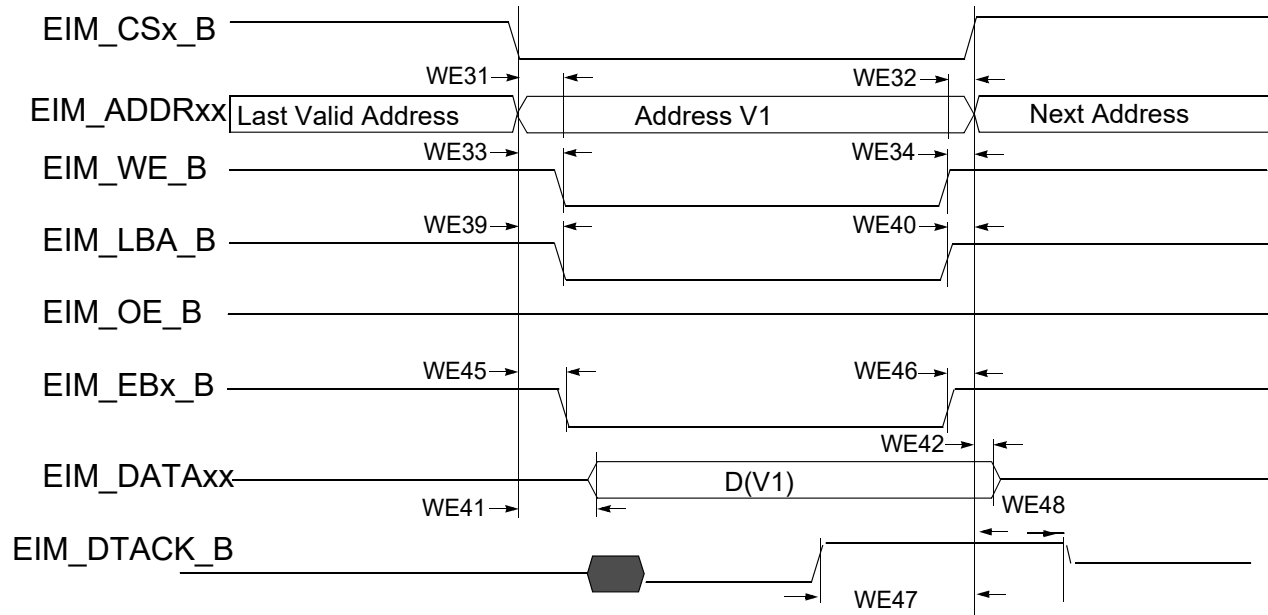

Figure 21. DTACK Mode Write Access (DAP=0)
Figure 16 through Figure 21, and Table 45 help you determine timing parameters relative to the chip select (CS) state for asynchronous and DTACK EIM accesses with corresponding EIM bit fields and the timing parameters mentioned above.